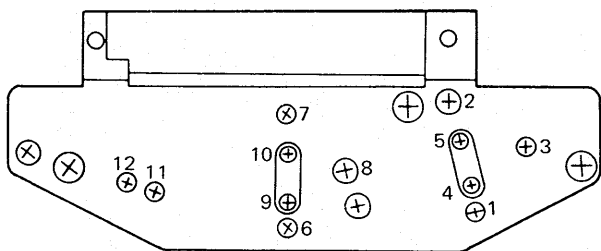

Fig. 25
7.2 P.B. HEAD ADJUSTMENT (Fig. 25)
7.3 REC. HEAD ADJUSTMENT (Fig. 25)